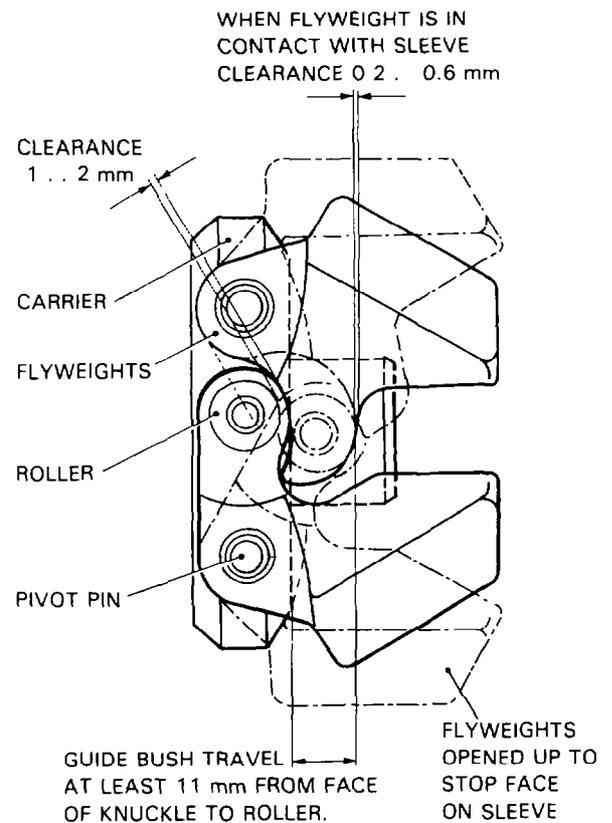

Figure 125 Standard Flyweight Dimensions
- Check that the flyweights move freely and can take up the positions shown in Fig 125.